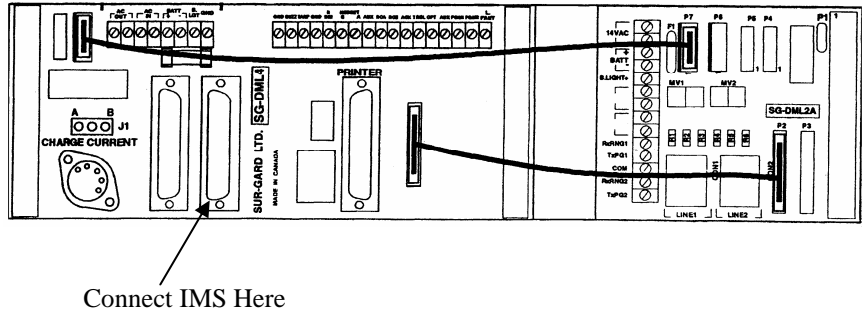

Figure 5-3. Typical Rear View of DACR
2. Complete all wiring according to the wiring diagram shown in Figure 5-3.
2. Complete all wiring according to the wiring shown in Figure 5-3.